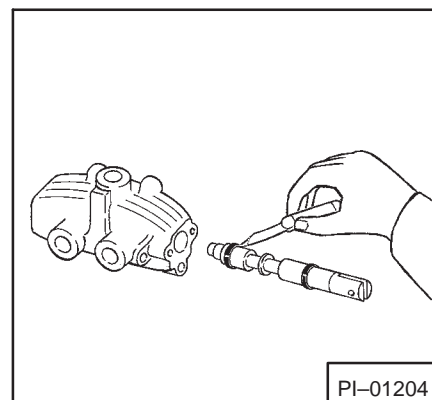

Fig. 4-24 Remove Valve Spool
3. Pull valve spool out of housing (Fig. 4-24).
5. Remove worn seal (Fig. 4-24).